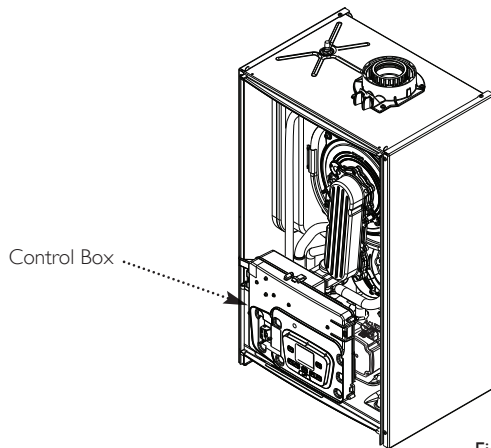

Fig. 34
- Disengage the securing tab and hinge the control box (Fig. 34) downwards. Undo the terminal block cover securing screw and remove the cover.